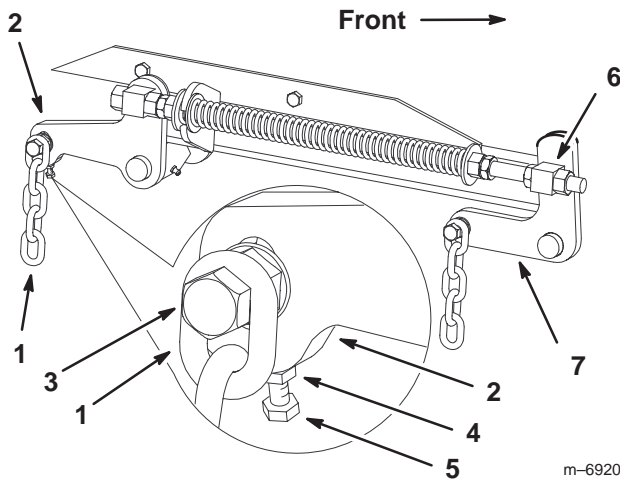

Figure 52
- If the measurements at positions **B** or **C** are not correct, loosen the bolt attaching the rear chain to the rear support arm (Fig. 52).